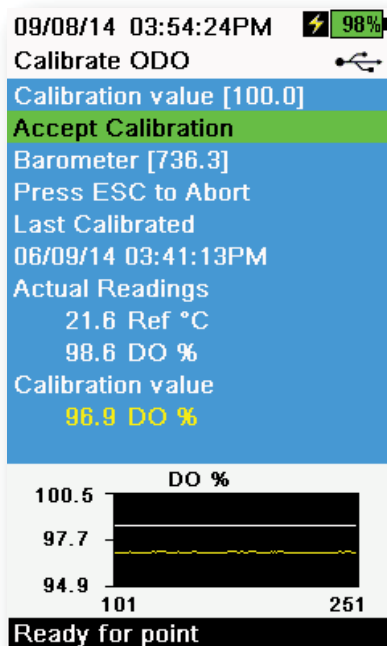

Figure 47 Calibrate ODO %
6. Observe the actual measurement readings for stability (white line on graph shows no significant change for 40 seconds), then select **Accept Calibration** (Figure 47). "Calibration successful!" will be displayed in the message area.